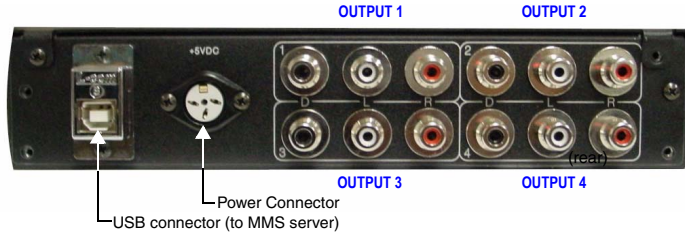

FIG. 1 MAX-AOM Audio-Only Module - rear panel connectors
The MAX-AOM Audio-Only Module (FIG. 1) is a streaming audio playback USB module that distributes up to four stereo outputs (both digital and analog).
Rear Panel Connectors:	<ul style="list-style-type: none"> USB Connector: USB connector (Type B) Power Cable connector: DC 3-pin DIN. Audio Outputs: Four sets of three connectors (see FIG. 1): <ul style="list-style-type: none"> (D): One RCA S/PDIF (coax) connector for digital output. (L, R): Two RCA connectors for stereo analog output.